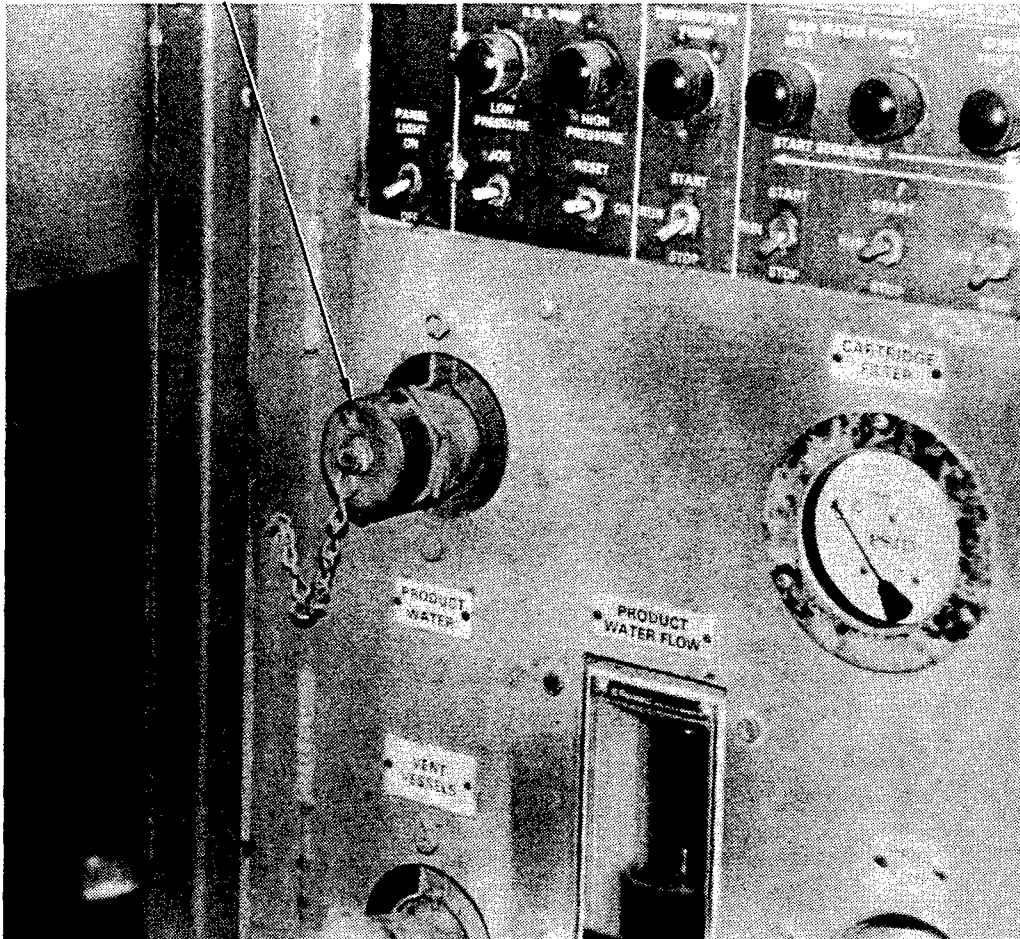

Figure 2-8. Product Water Outlet.
- e. Cap the product water outlet located at the front panel of the ROWPU as shown in figure 2-8.
- b. Install a cap on the product water outlet port located at the front panel of the ROWPU as shown in figure 2-8.